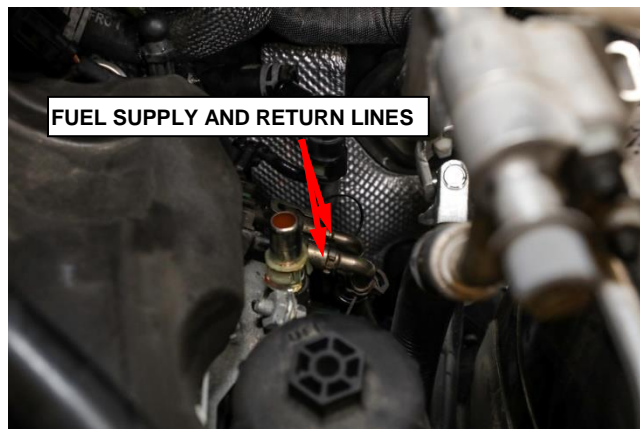

Figure 16 – Fuel Supply and Return Lines
35. Disconnect the low pressure fuel supply and return line quick connect fittings by the brake booster (Figure 16).